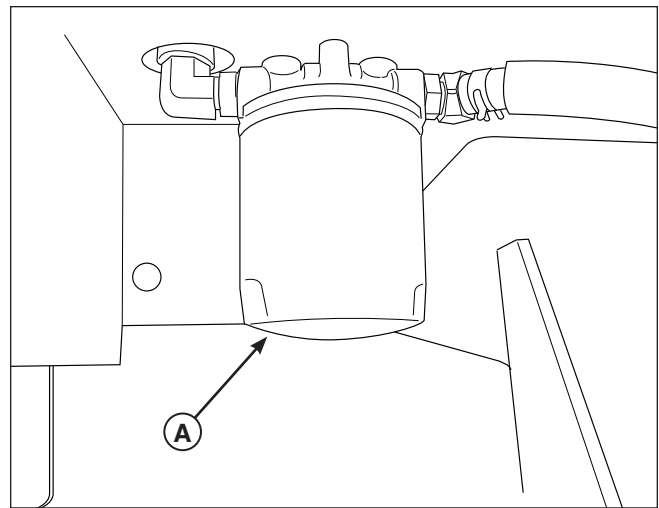

Figure 22. Change Hydraulic Oil Filter
1. Locate the transmission oil filter (A, Figure 22).